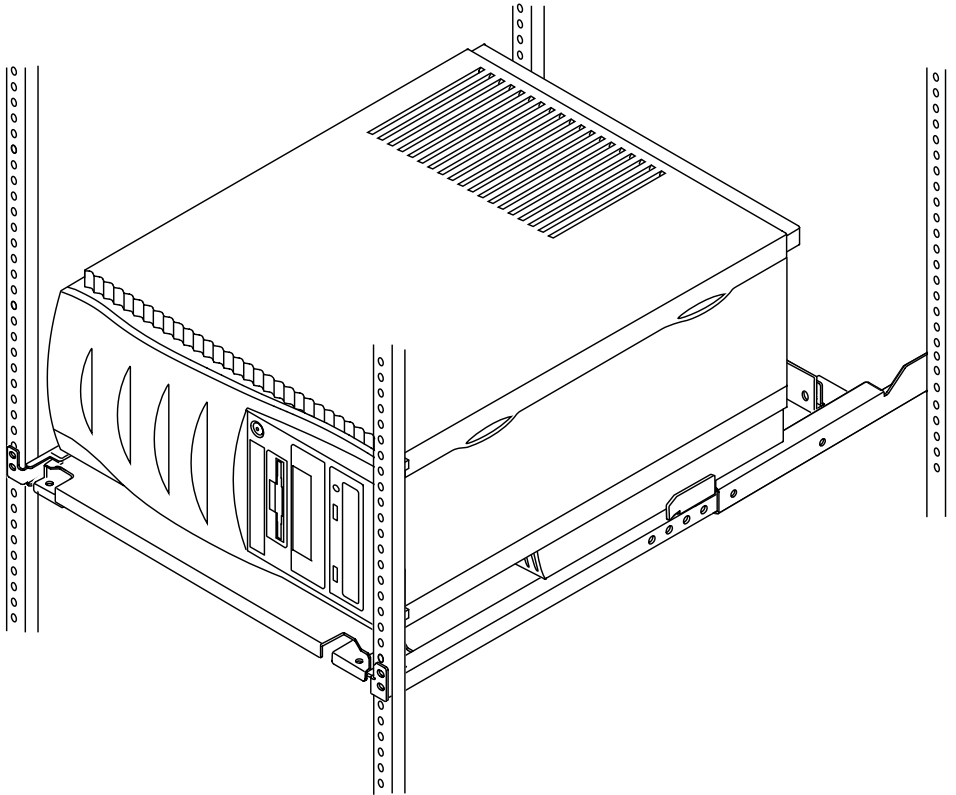

FIGURE 10 Placing the System in the Rack
3. Slide the system back until it is flush with the rear flanges on the mounting tray (FIGURE 10).